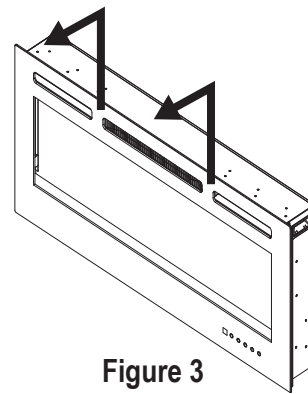

Figure 3
- Carefully lift the glass panel off the fireplace and place it on a soft, clean surface. Remove the packing paper and log media from inside the unit. [Figure 3]